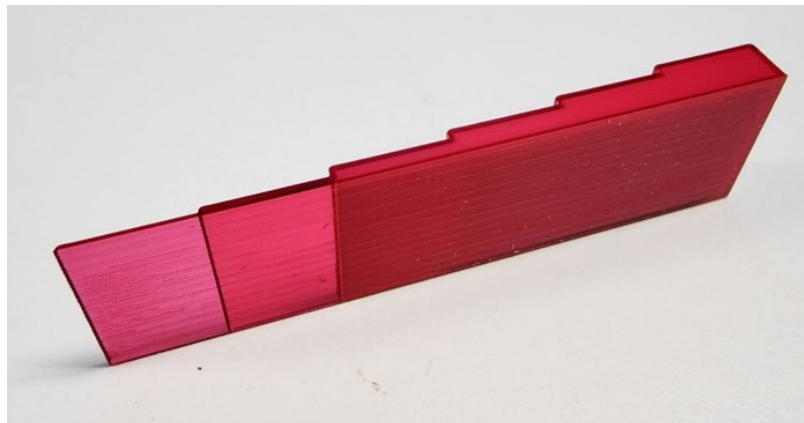

Figure 11: Color of thin walls may appear transparent
- In certain colors, parts thinner than 1 mm might appear transparent. (Figure 11)